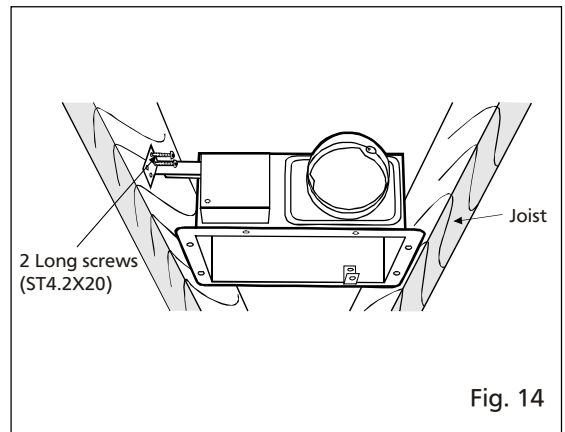

Fig. 14
4. Secure the suspension bracket to joists by using long screws (ST4.2X20). (Fig.14, Fig.15)